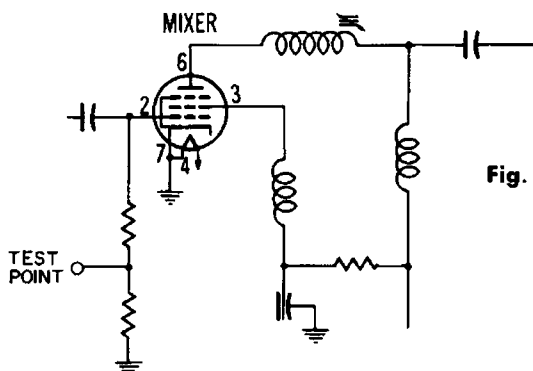

Fig. 6-2. Test point used during RF and mixer alignment.
3. Move the scope lead to the test point at the center of the mixer grid load (Fig. 6-2). Use an isolating resistor of 10K or so in series with the scope lead. The vertical amplifier of the scope must have good sensitivity to adequately display a legible pattern of the RF response from this point.